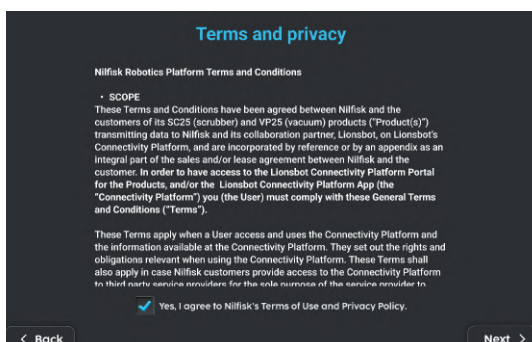

FIGURE 3-3
3. Read and agree to the Terms of Use and Privacy Policy **(Fig. 3-3)**.